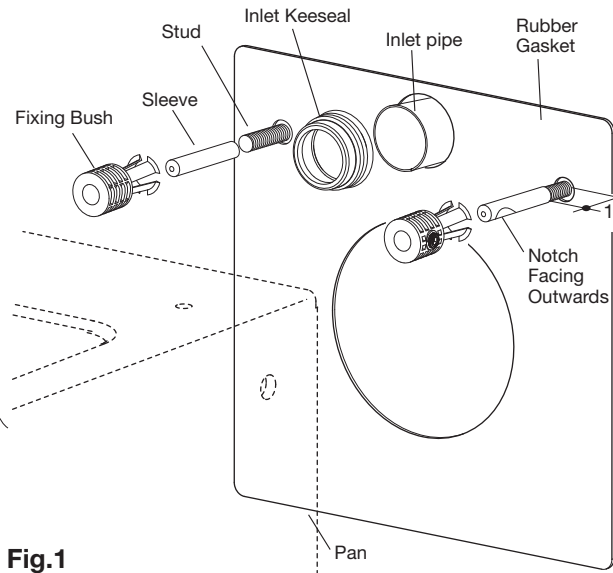

Fig.1
- 7- Fix the mounting sleeves onto fixing studs so that 10mm of thread is exposed in front of the gasket, as detailed in **Fig. 1**.